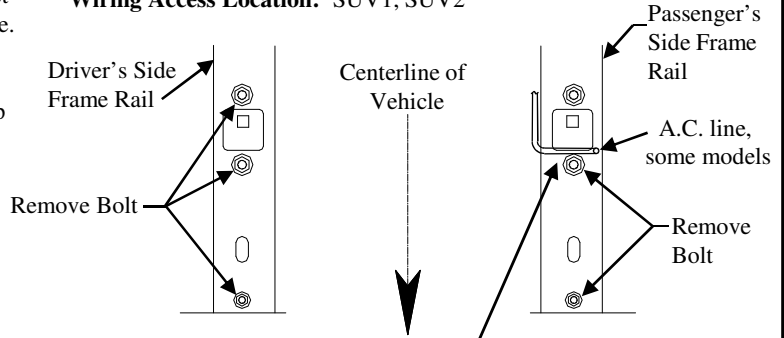

Figure 2
2. Snap plastic loom in place over Air Conditioning line on Passenger's side near bolt if present. See Figure 2 above.